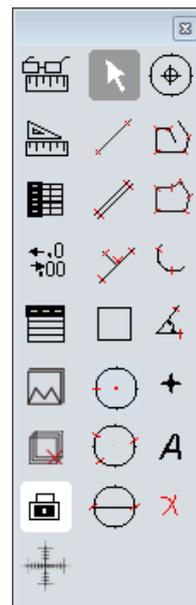

Fig.4-5. measurement
- (3) Click on **Measure** tab to get measurement functions (Fig.4-5).
- (4) It is allowed to apply measurements to the live and still images. To get more details about measurement, please read the ISCapture software manual.